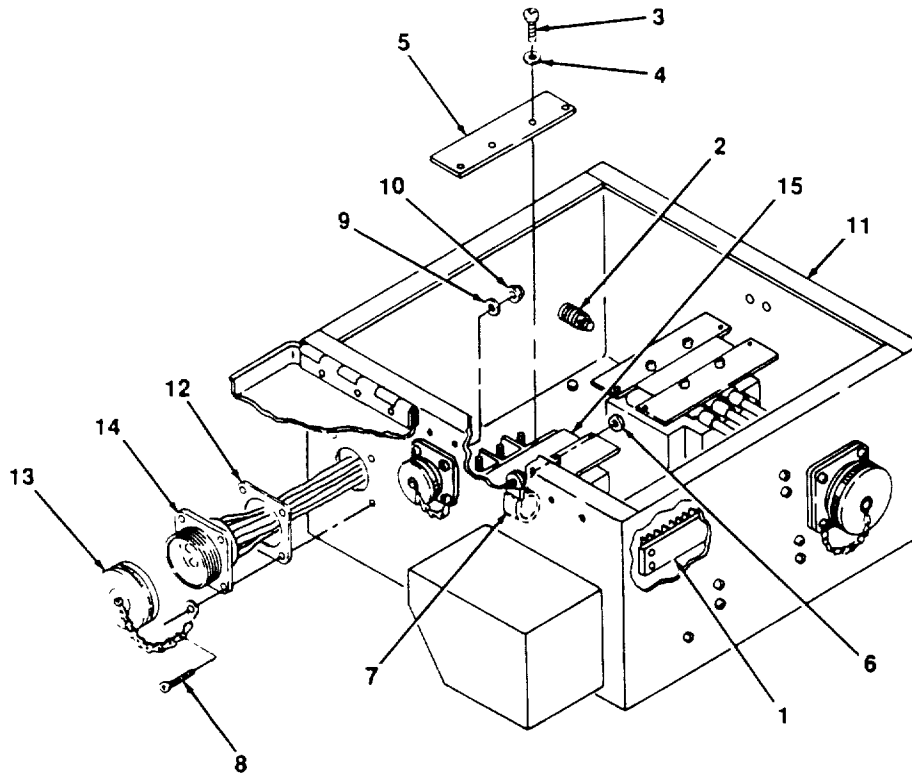

Figure 4-10. J1 Wiring Harness Replacement.
- (b) Detach J1 wiring harness wires from terminal board TB1 (1, figure 4-10) and ground stud E1 (2).
- (c) Remove two screws (3) and two washers (4) and remove K1 contactor cover (5) from terminals A2, B2 and C2. Detach one J1 wire from each of these terminals.
- (e) Remove three nuts (6) and open three clamps (7) Remove two J1 wires.
- (f) Remove four screws (8), four flat washers (9) and four nuts (10) and pull J1 wiring harness out of PDU housing (11). Remove gasket (12).
- (g) Unscrew and remove connector cover (13) from connector J1 (14).
(2) Installation.
- (a) Slide gasket (12) over harness wires and up against flange of connector (14).
- (b) Feed wires through J1 opening in PDU housing (11).
- (c) Seat flange of connector J1 (14) against housing (11) and fasten with four screws (8), four flat washers (9) and four nuts (10). Make sure tab of connector cover chain (14) is mounted to flange with lower right corner hardware.
- (d) Install connector cover (13) on connector J1 (14).